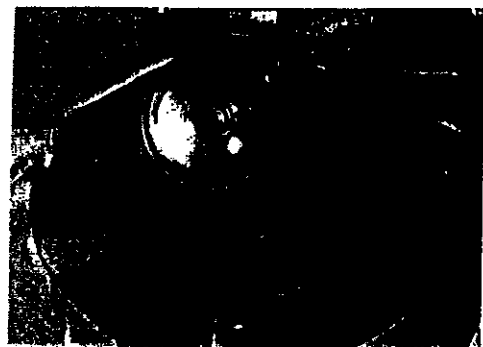

Fig.2
- Open shuttle cover spring follower plate **c**, remove shuttle cover **d** and take out large hooks system (Fig 2), class:KSP-204 .